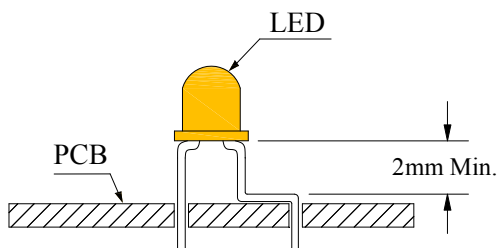

Fig. 5
4.1. Maintain a minimum of 2mm clearance between the base of the LED lens and the first lead bend. (Fig. 5 and 6)